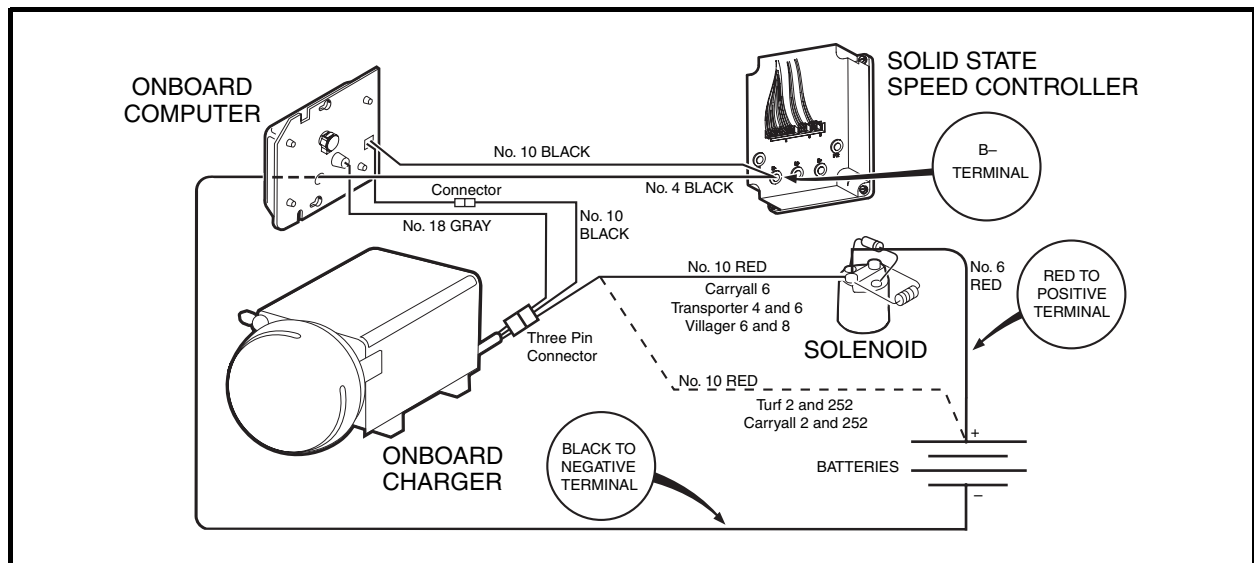
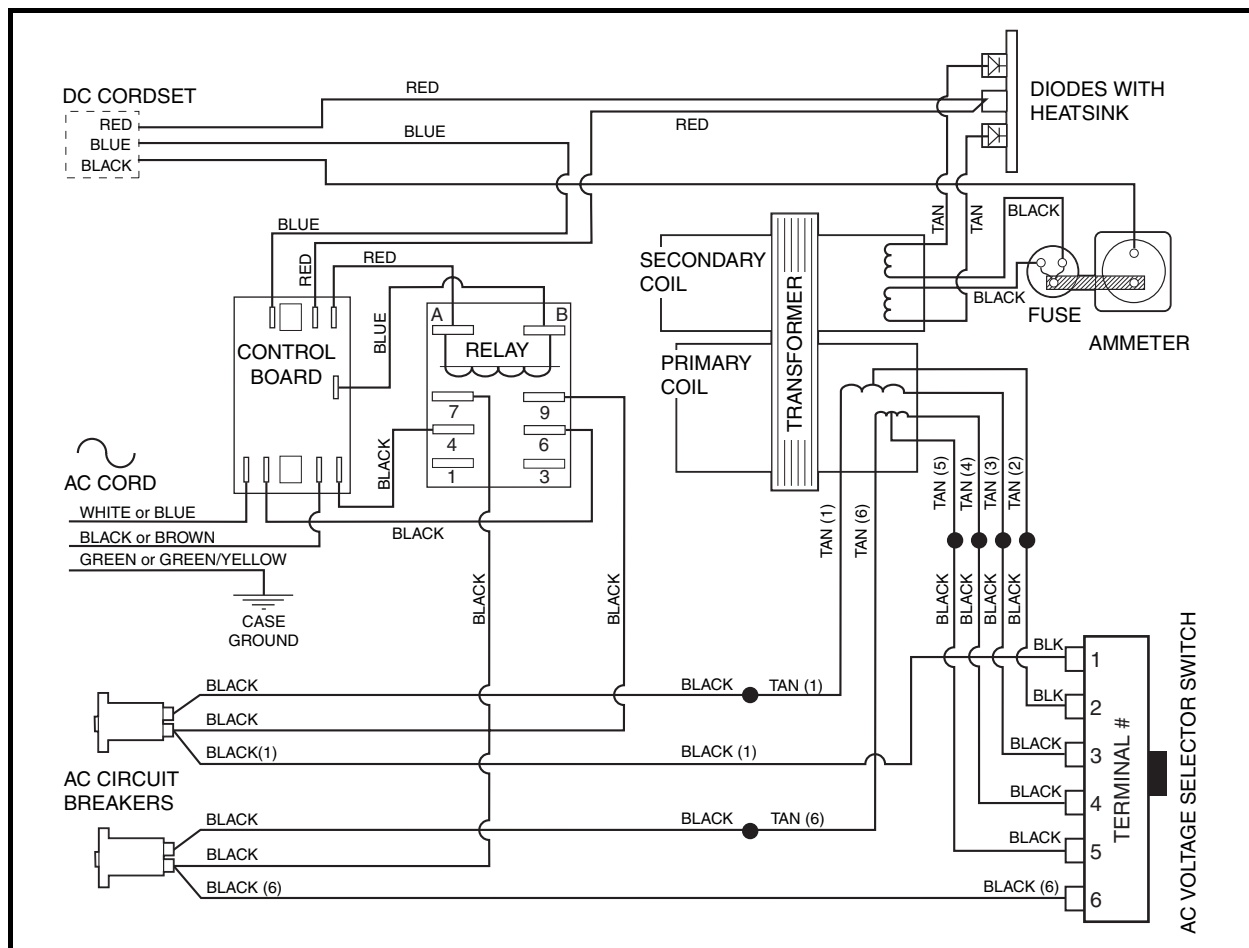
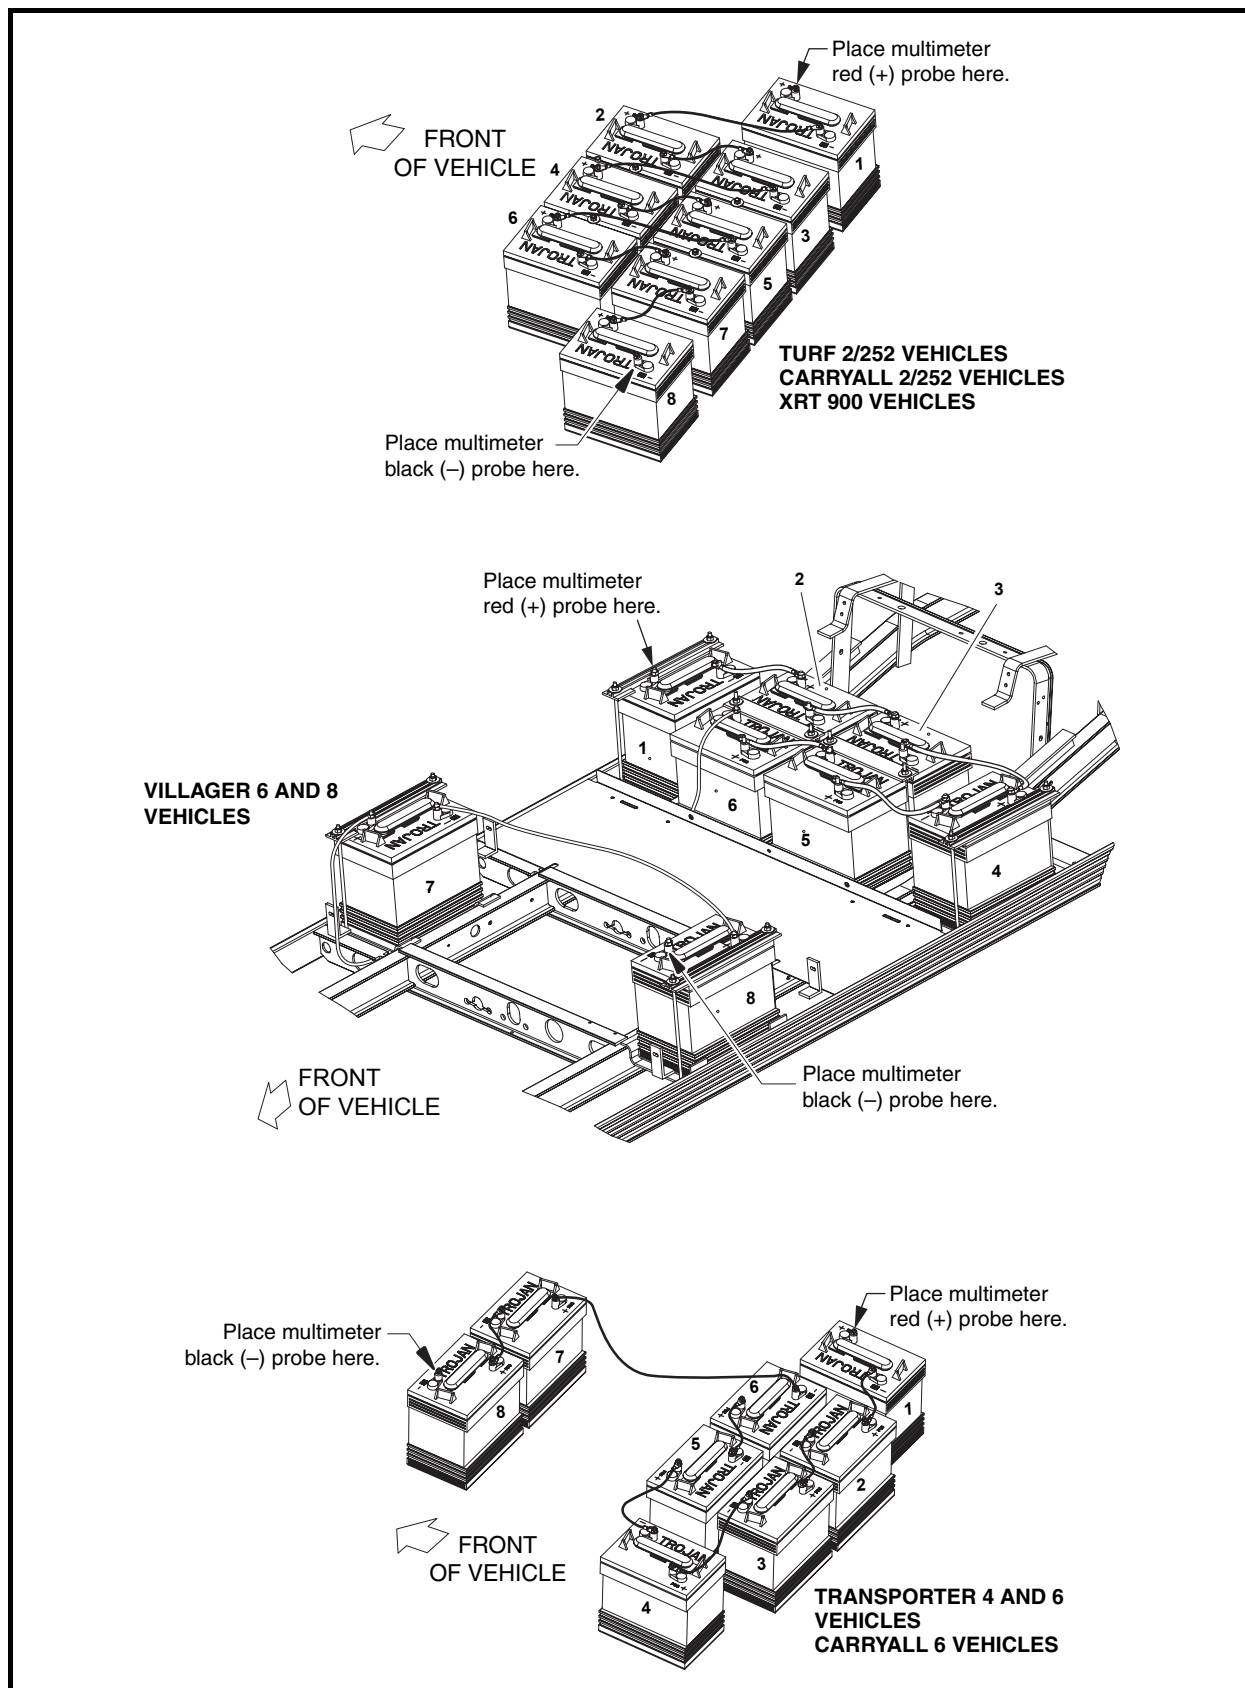

Figure 6-2 Charge Circuit
Figure 6-4 Export IQ Plus Onboard Battery Charger Wiring Diagram
Figure 6-5 Battery Configurations
The 10-gauge black wire from the charger connects to the onboard computer black lead wire. The 6-gauge black wire (also on the controller B- terminal) goes through the onboard computer and connects to the negative (–) post of battery no. 8 (**Figure 6-5, Page 6-11**). The 10-gauge red wire of the charger is connected to the positive (+) post of battery no. 1 for Turf 2/252, Carryall 2/252 and XRT 900 vehicles, and the large post of the solenoid (battery side) for Carryall 6, Villager and TransPorter vehicles. The 18-gauge gray wire from the charger connects to the onboard computer (**Figure 6-2, Page 6-3**).
2. If the charger does not operate exactly as described above, refer to the wiring diagram and make sure that the vehicle is wired correctly (**Figure 6-2, Page 6-3**) and that the internal charger wiring is correct (**Figure 6-4, Page 6-6**).
- Knowledge of battery charger wiring and component terminology is required before attempting any repair (Figure 6-4, Page 6-6).
Improper vehicle or battery charger wiring	See Figure 6-2, Page 6-3, Figure 6-4, Page 6-6 and Figure 6-5, Page 6-11
2. With a multimeter set to 200 volts DC, measure the voltage of the battery pack between the positive (+) post of battery no. 1 and the negative (–) post of battery no. 8 (**Figure 6-5, Page 6-11**). Normal no-load voltage should be between 50 and 52 volts for fully charged batteries. The voltage of the battery pack must be over 34 volts DC to allow the onboard computer to close the charger relay. If battery pack voltage is too low to start charger, temporarily bypass the charger relay. **See Charging a Battery Pack that has Low Voltage on page 6-31.**